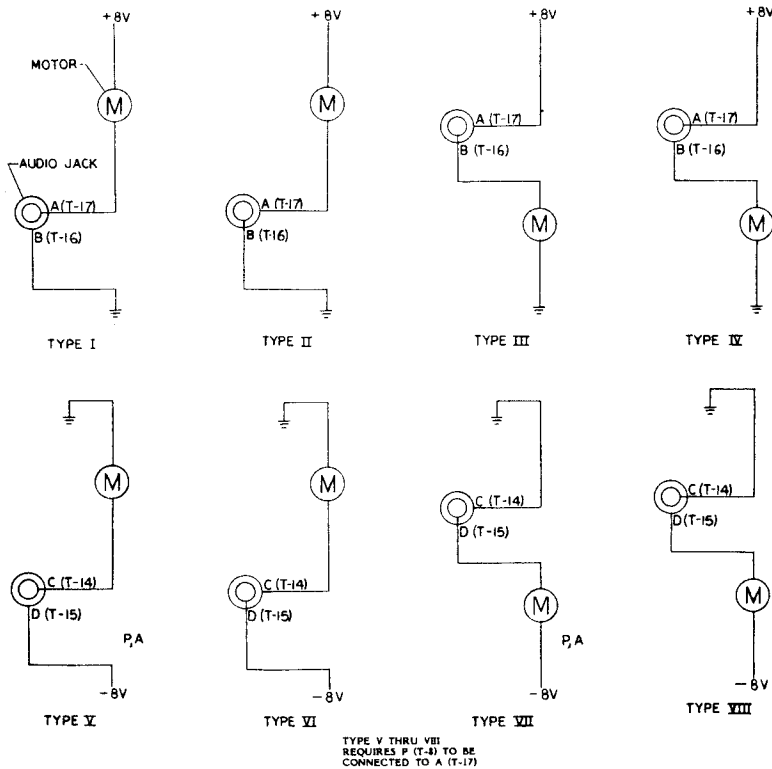

Figure 3-3. REMOTE CONTROL TYPES AND CONNECTIONS
The remote control circuitry on the SYM-1 card allows a variety of cassette recorders to be used under software control. However, before you connect your remote control you must determine which type of connection is necessary for your particular recorder. Figure 3-3 illustrates the SYM-1 circuitry and eight different ways to hook it up. The following procedure can be used to determine which connection is necessary for your recorder:
8. After you have found the proper category for your recorder, Figure 3-3 illustrates which connections to make.